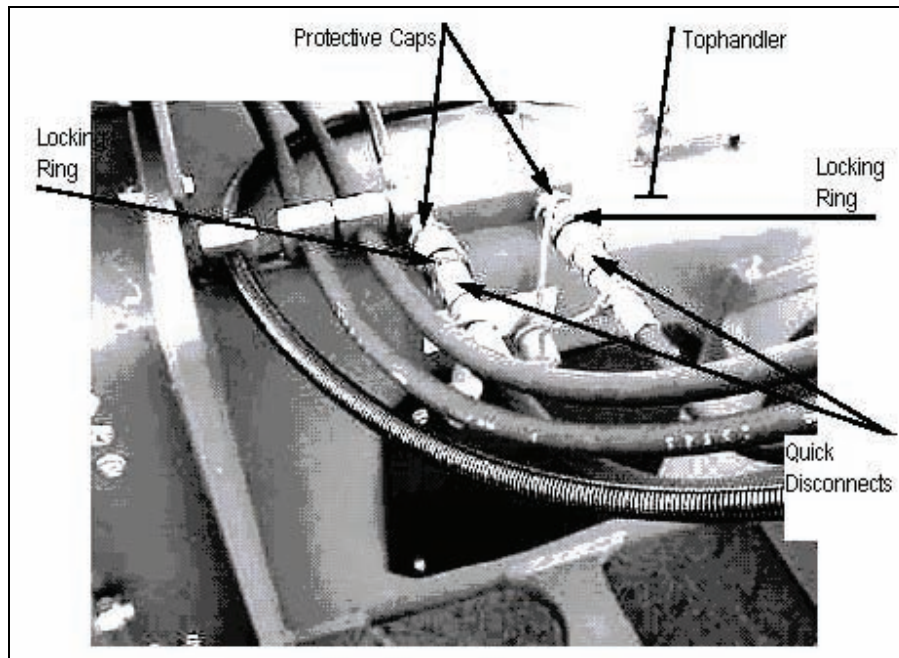

Figure 3-159. Releasing Locking Rings
- c. Release locking rings to disconnect two hydraulic hose quick disconnects, located on top left side of the tophandler and install protective caps on connectors (see Figure 3-159).